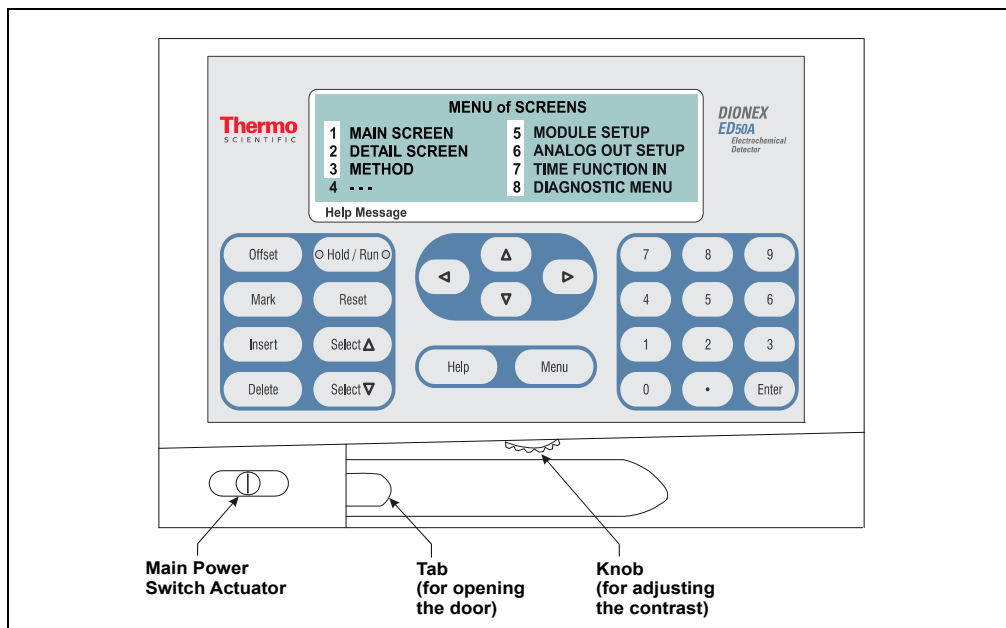

Figure 2-1. Dionex ED50A Front Panel
The main power switch is on a bulkhead inside the electronics chassis (in the front, left-hand corner). The actuator for the power switch is on the front door, below the control panel (see Figure 2-1). The actuator functions only when the front door is fully closed. When the door is open, press the main power switch to turn the Dionex ED50A on and off.
- To adjust the screen contrast, rotate the knurled knob in the recess below the **Help** and **Menu** buttons (see Figure 2-1).